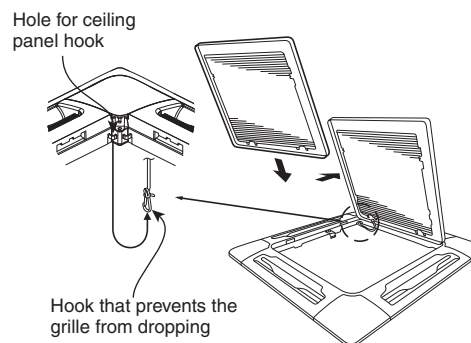

Fig. 3-50
- To install the air-intake grille, follow the steps for **Removing the grille** in the reverse order. By rotating the air-intake grille, it is possible to attach the grille onto the ceiling panel from any of 4 directions. Coordinate the directions of the air-intake grilles when installing multiple units, and change the directions according to customer requests. (Fig. 3-50)